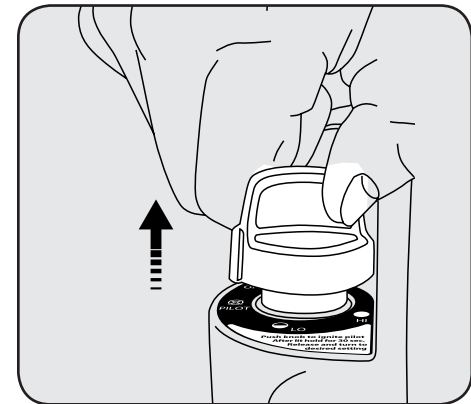

Figure 4
6. After pilot lights, hold down for 30 -60 seconds and then release knob. Knob should return to fully extended position. See Figure 4.
8. After pilot lights, hold down for 30 -60 seconds and then release knob. Knob should return to fully extended position. See Figure 4 on previous page. The pilot should remain lit.